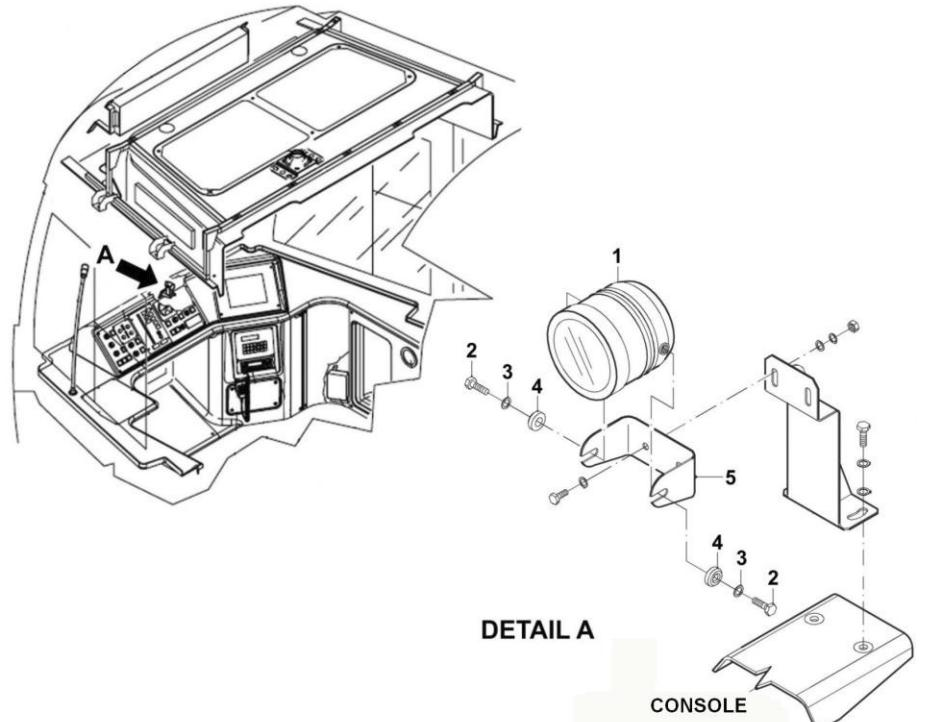

FIGURE 1 - CAB,VIDEO CAMERA REPLACEMENT
To perform the Task proceed as follows (Refer to Figure 1& 2): <ol style="list-style-type: none">1. Locate the Video Camera (1) to be removed2. Support the Video Camera and remove the Fixing Screws (2) and Washers (3, 4). Retain them for later use.3. Carefully remove the Video Camera from the Support (5)4. Disconnect the Video Camera Connector. Make the Video Camera available for repair.5. Vacuum clean the Video Camera lodging. Use recommended agent to complete the cleaning6. Position the Video Camera (1) into the Support (5)7. Connect the relevant Connector.8. Fix and secure the Video Camera by means of the relevant Fixing Screws (2) and Washers (3, 4).9. Restore Power to the System